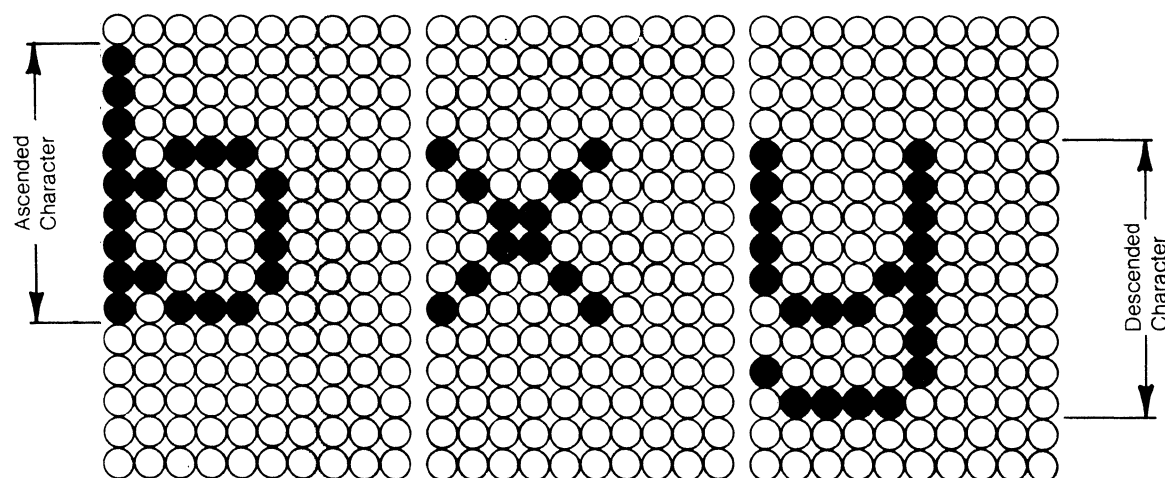

Figure 4 Inter Character & Inter Line Spacing
- b) Character Generation: Each character is generated within a 7 x 13 dot matrix where normal and descending characters may be displayed. To provide inter character and interline spacing, a character block concept is used; such a character block consists of 10 dots in the horizontal plane and 15 dots in the vertical plane (see FIG. 4).